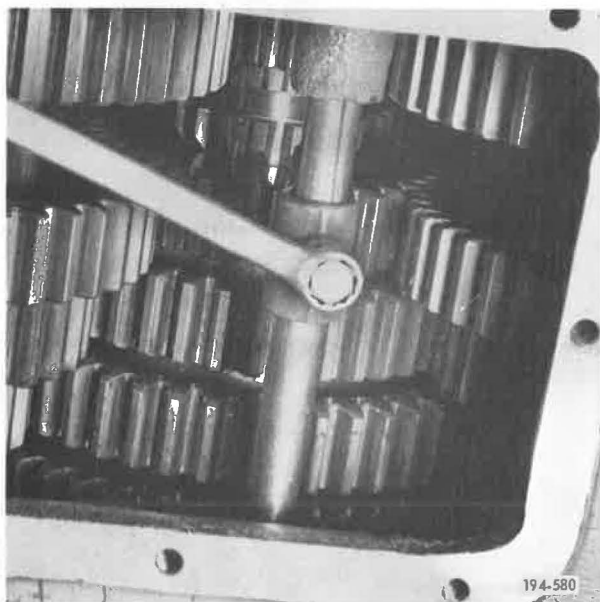

Figure 5-539. Installing Setscrew
11. Advance rail through intermediate bore of case and second/third speed shift fork, until rail reaches neutral position. Install setscrew into second/third speed shifter, and tighten to recommended torque. See Figure 5-539. Refer to Torque and Tolerance Table, Item 8.